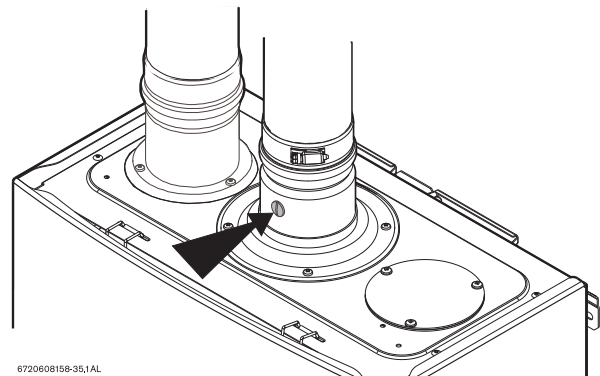

Fig. 58 Measuring port
- ▶ Remove brass flat head screw on the exhaust collar as seen in Fig. 58.